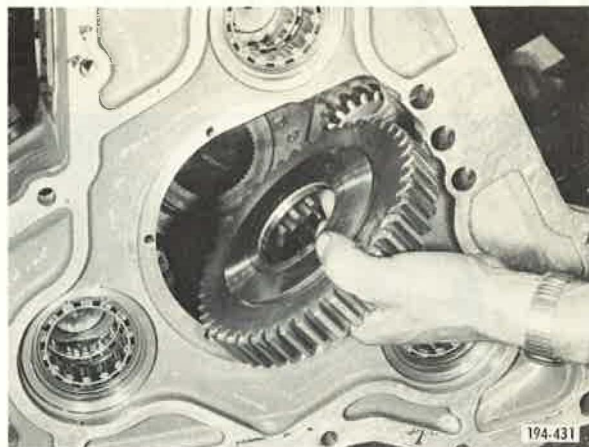

Figure 60. Installing Lo-Range Gear
6. Through front opening of rear case install mainshaft Lo-range gear (Lo-Lo range for TRXL1071). See Figure 60. Temporarily place gear between countershaft direct gear and Lo-range gear. (Lo-Lo range for TRXL1071).